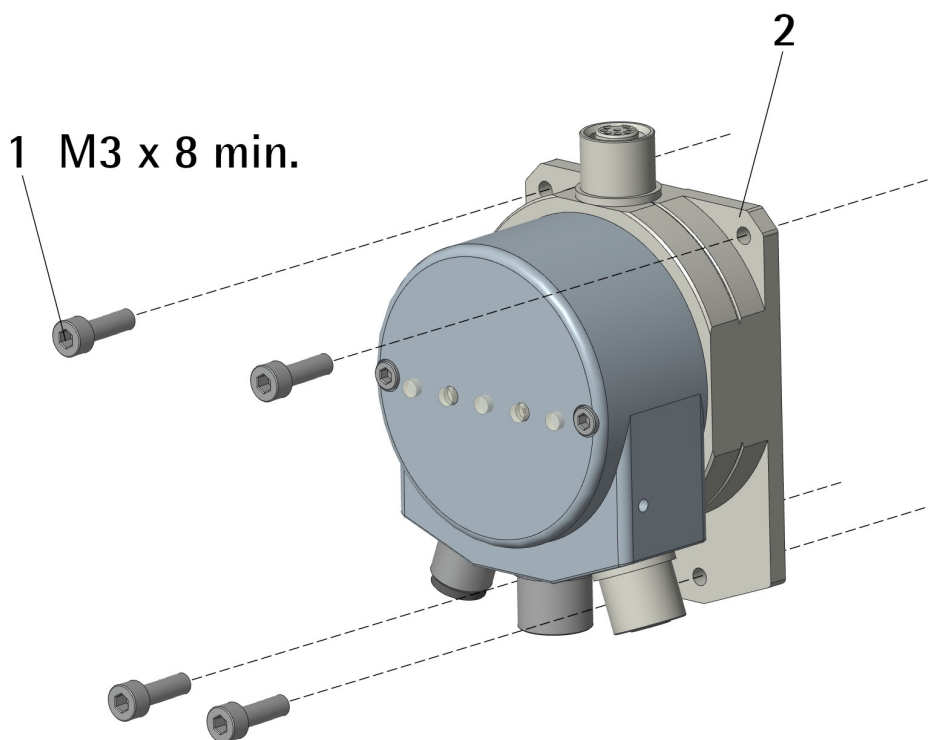

Figure 2 - Installation on panel
3.3 Installation with DIN TS35 rail clip (Figure 2)